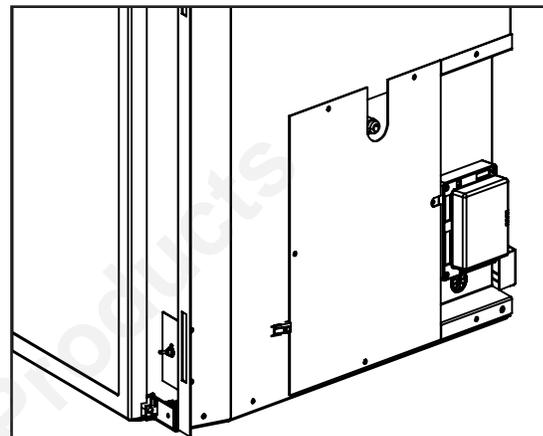

Figure 34: Gas Connection Location.
- A $\frac{3}{8}$ " 45° flared fitting and flex connector are supplied with the unit (see Figures 34 and 35). Consult the local authorities for local codes or use the CAN/CGA B149 (1 or 2) installation code in Canada. In the US, gas installations follow either local codes or the current edition of the National Fuel Gas Code ANSI Z223.1.